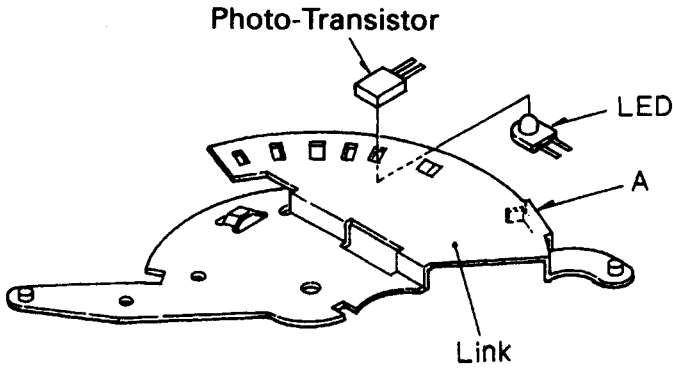

Fig.35
1. There is a hole in the link in the position that corresponds to the straight part of the steer's stage holes. This hole is detected by the photo-transistor. (Fig. 35)